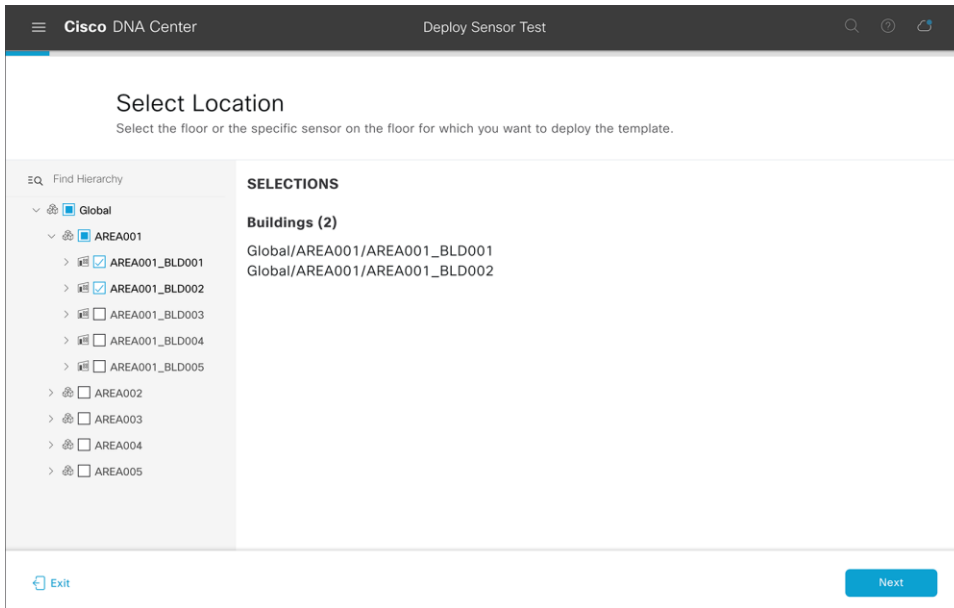

Figure 84.
19. From the sites hierarchy on the left, select the site(s) to deploy your test template to (Figure 84).